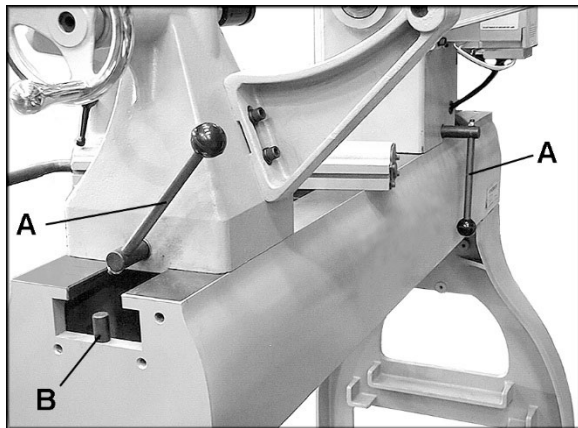

Figure 13
To slide the headstock or tailstock, swing the locking handle (A, Figure 13) backward or forward until the headstock/tailstock can slide freely.
To remove headstock, tailstock or toolrest base from the bed, unscrew and remove either of the stop bolts (B, Figure 13). After re-mounting these items on the Lathe, re-insert the stop bolt.
1. Unscrew and remove the stop bolt on the end of the lathe bed (B, Figure 13) and slide the tailstock off the end of the bed.